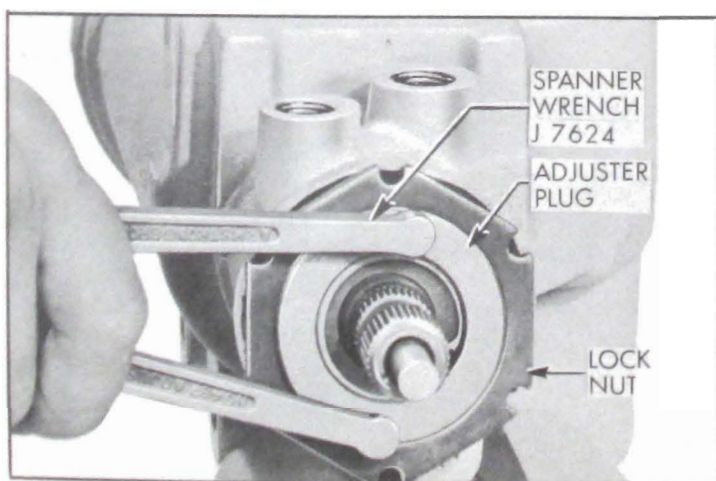

Figure 8-28—Removing Adjuster Plug Assembly
4. Loosen adjuster plug lock nut and remove adjuster plug using adjustable spanner wrench, J-7624. See Figure 8-28.